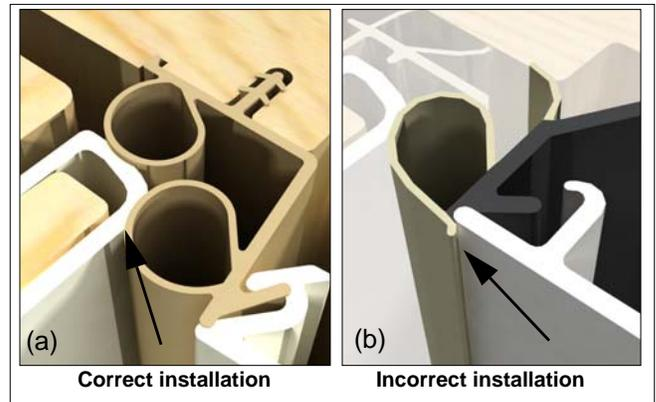

Figure 7 The weather strip needs to be tucked UNDER the part stop. Figure 7a is a correct installation, figure 7b is incorrect.
3. To reinstall the stop, slide the stop in at the bottom first between the bottom panel drip cap and jamb. Press the exterior flange of the side part stop into place first and then press the interior side of the stop until you can hear it snap along the entire length of the stop. Tuck the weather strip under the front edge of the stop. See figure 6 and figure 7.
*NOTE: If you hear a “snap or pop”, this does not mean the stop is engaged with the weather strip. Proceed to tuck the weather strip under the stop after it snaps into place. Reference figure 7 for correct and incorrect examples.*